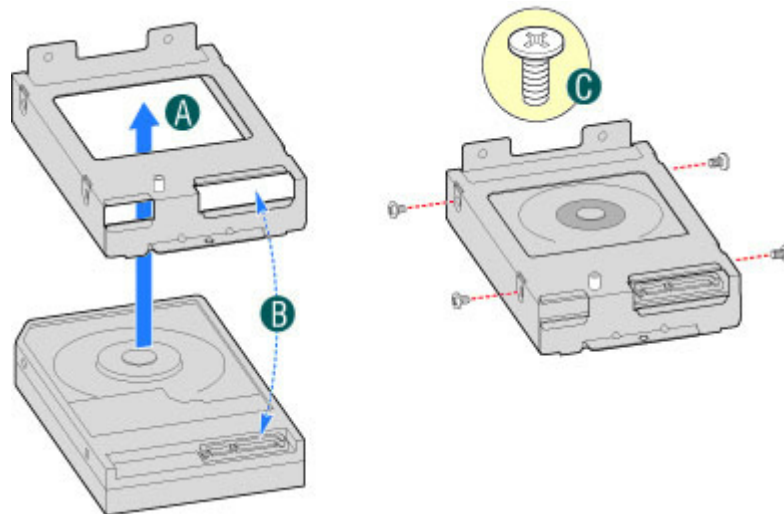

Figure 30. Installing Drive into the Drive Carrier
4. Position the drive with the drive connectors facing up, as shown in the following figure (Figure 30). Set the drive carrier over the drive (see letter "A"). The data and power connectors must be positioned so they are accessible through the cut-out, as shown by letter "B". Use the four screws provided to attach the drive to the carrier (see letter "C").